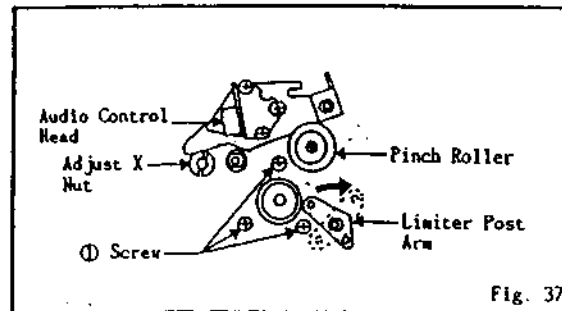

Fig. 37
2. Remove the 3 screws ① (SEMS A 2.6x6) held to DD unit on front of the Deck. (Fig. 37)
1. Return the Limiter Post to the dotted line, then fit new DD unit to the chassis without touching center of the shaft of the DD unit to the chassis. Return the Limiter Post to where it was. (Fig. 37)